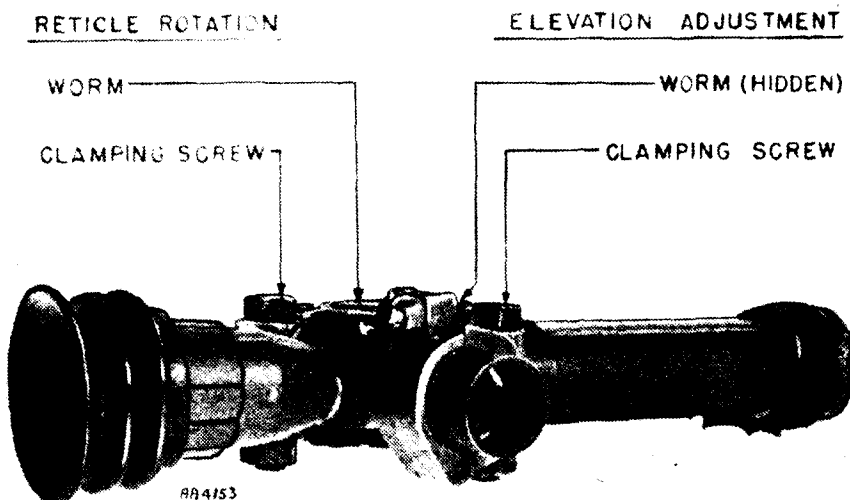

FIGURE 34.—Telescope M26.
(1) The reticle lines are placed in a horizontal position. A reticle rotation worm screw, secured by a clamping screw, on top of the telescope's elbow angle is provided for this purpose. (See figs. 34 and 35.) To bring the reticle line to the horizontal position, loosen the clamping screw; turn the worm,
(a) In the range telescope, raise or lower the point to the zero range line by loosening the clamping screw and turning the elevation adjusting worm (fig. 34) on top of the telescope. When the adjustment is complete, tighten the clamping screw.